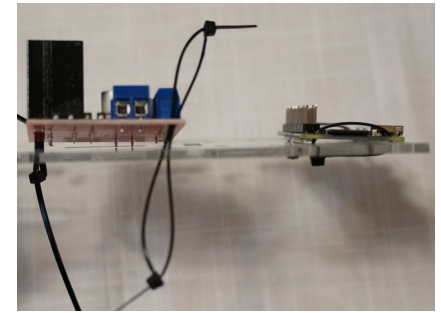

Figure 8
9. **H-Bridge:** Align the H-Bridge on the top as shown. Using 2 zip ties, push one up through the bottom and the other down from the top in the same hole. Secure by tightening the zip ties both above and below the H-Bridge. Do this in 2 opposite holes. (Figure 8)